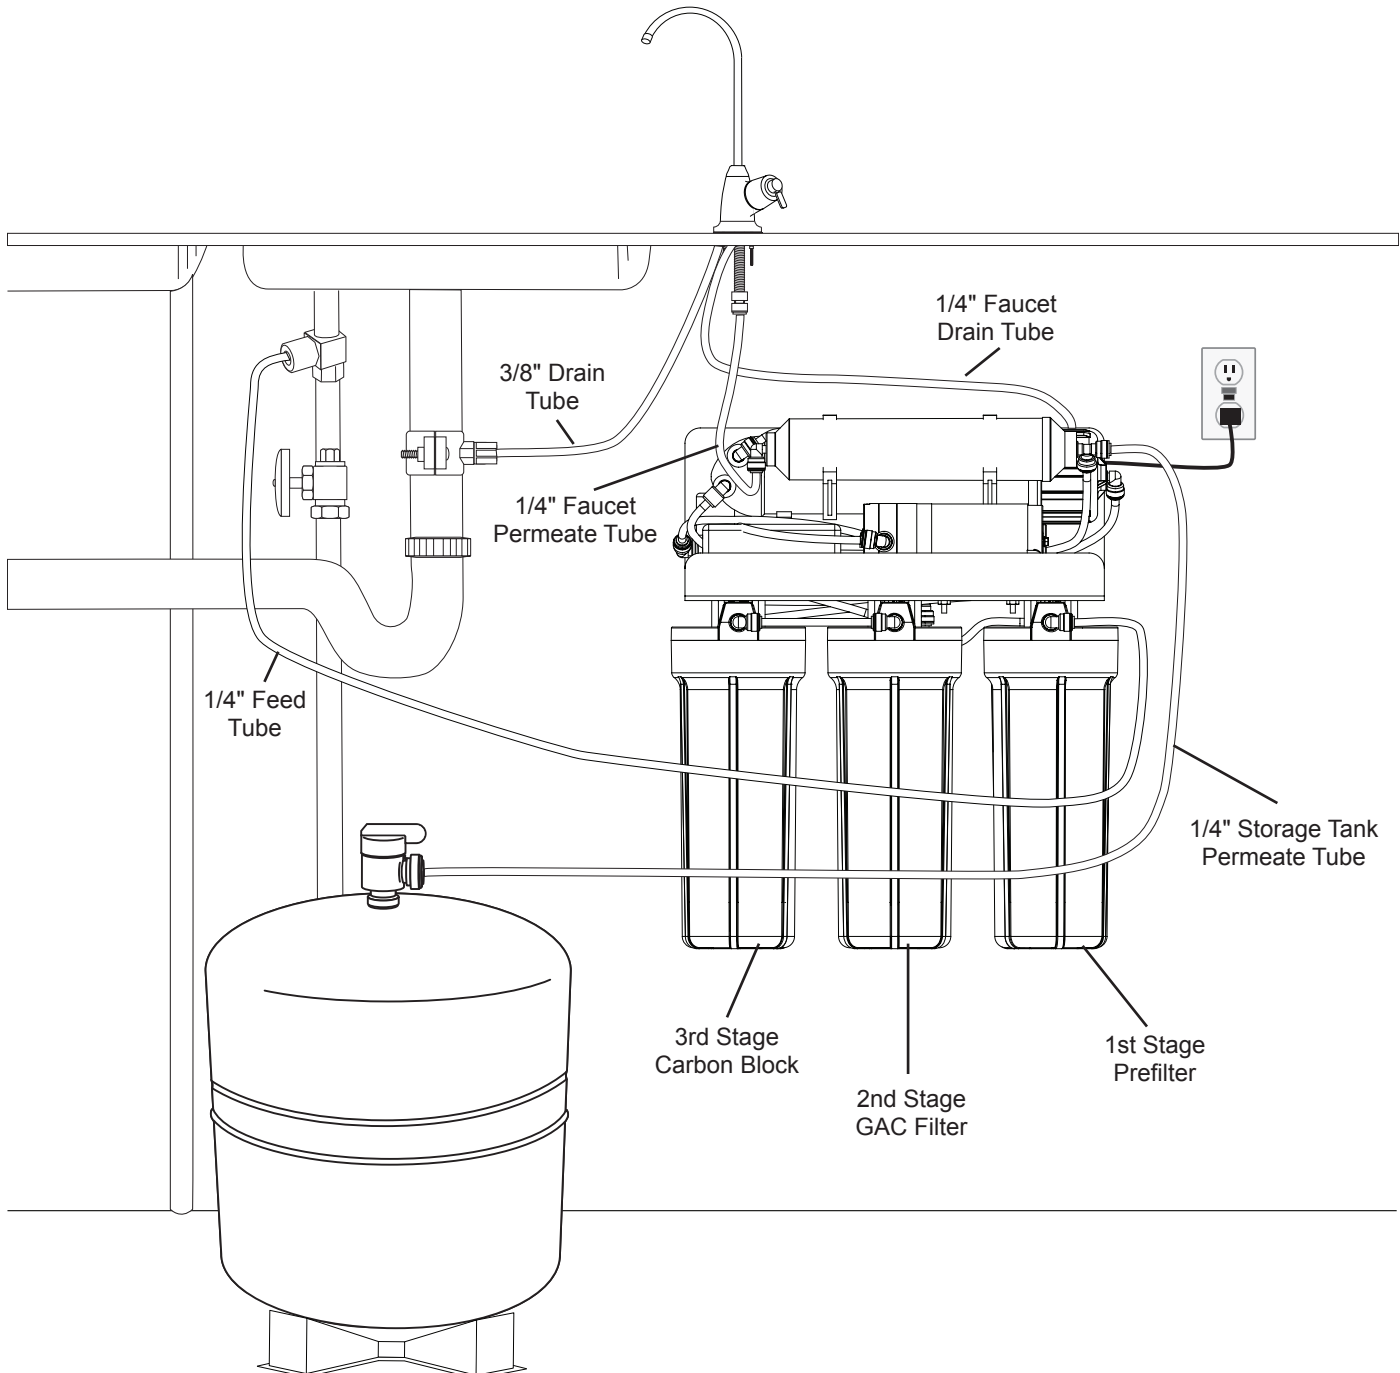

Figure 12
- A. Attach the drain clamp to a vertical section of the drainpipe, about 6 inches above the trap. Make sure the opening on the drain clamp is facing towards the drinking water faucet (see Figure 12).